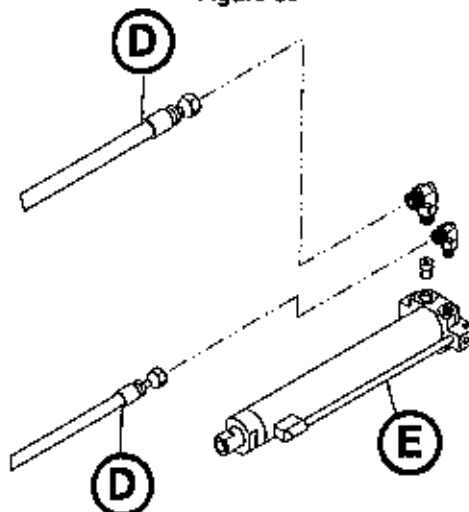

Figure 59
5. Using a 11/16" and 13/16" combination wrench, remove both hoses (D) from the hydraulic cylinder (E) (Figure 59).